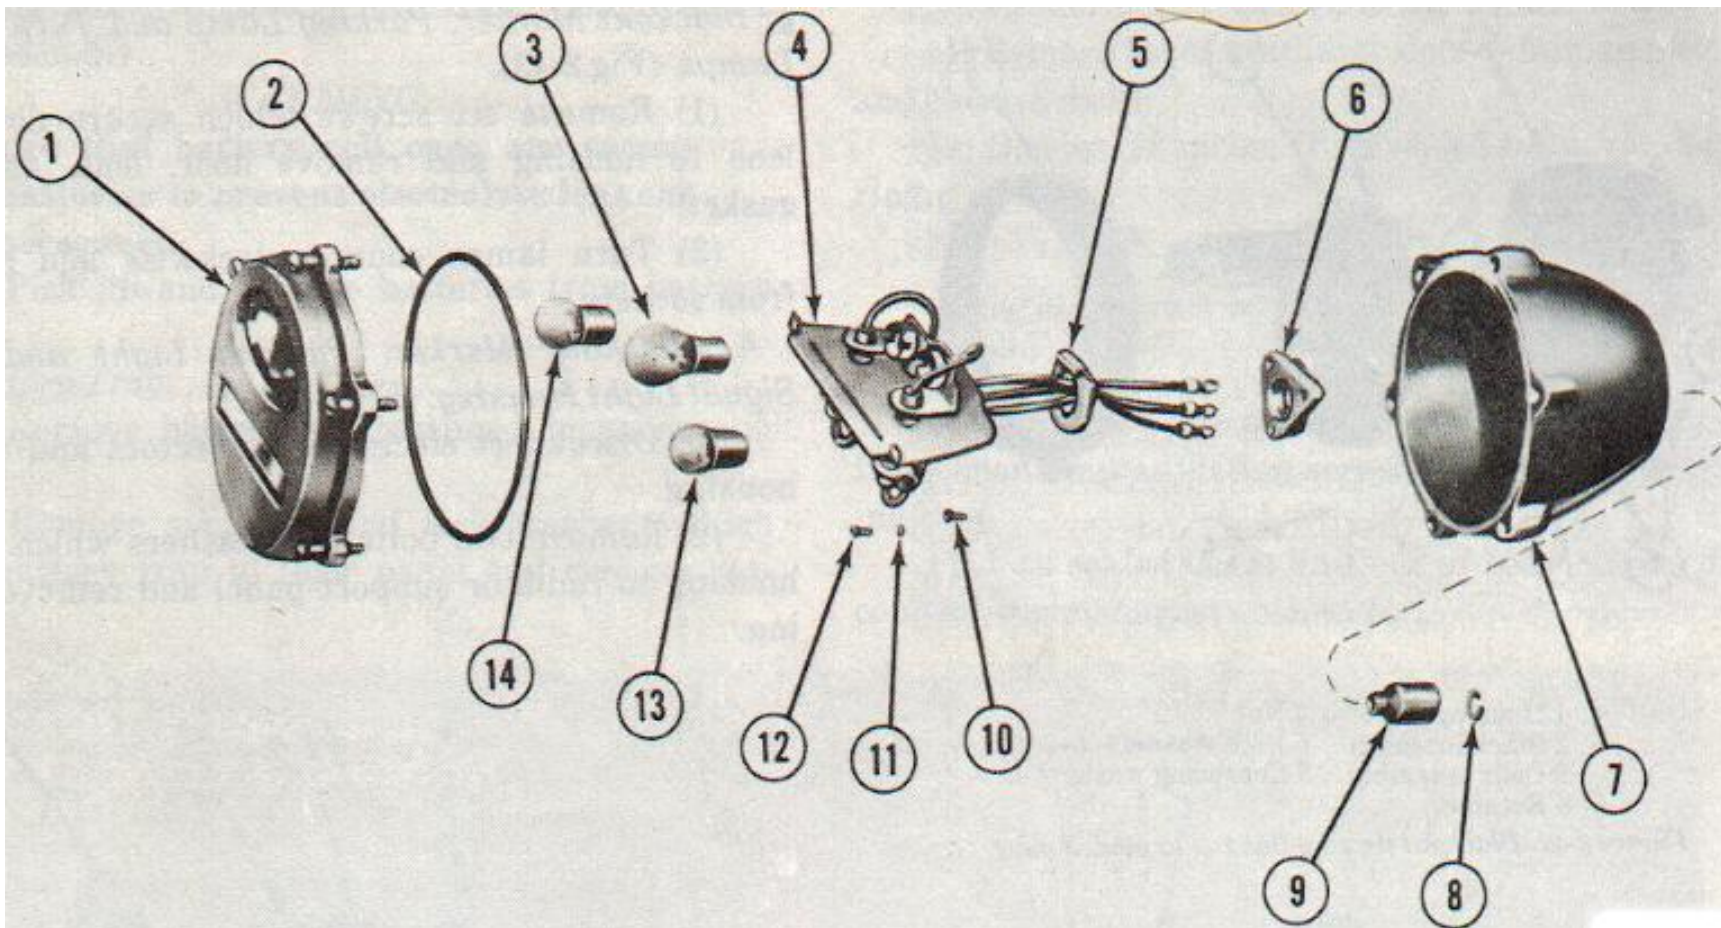
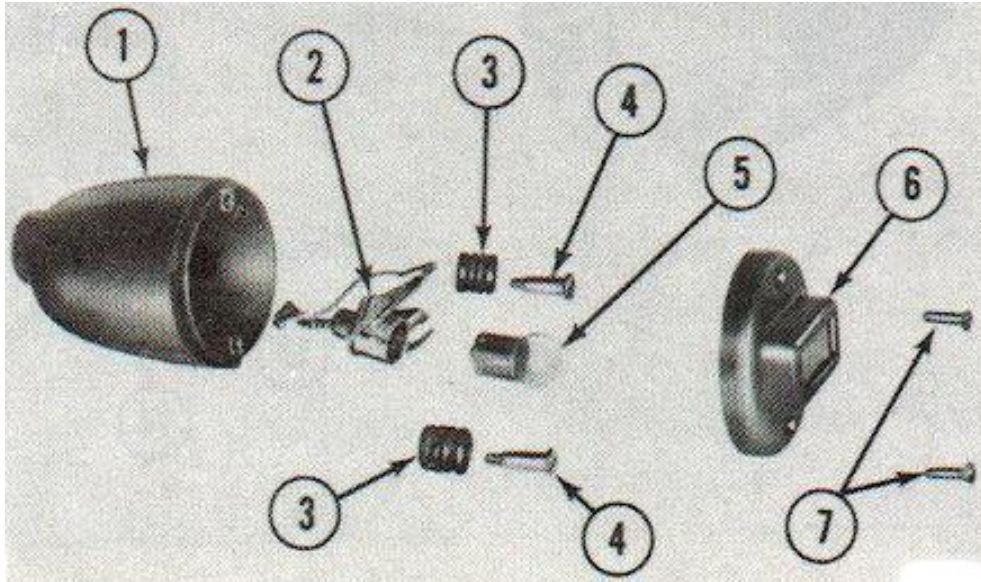

Figure 2-44 Tail and stop lamp, directional signal lamp, parking lamp, blackout marker.
Figure 2-45. Blackout stop light - exploded view.
i. Tail and Stop Lamp, Directional Signal Lamp, Parking Lamp, Blackout Marker. (Fig 2-44)
(1) Remove six screws which secure door and lens to housing assembly and remove door and lens.
(2) Turn lamps counter-clockwise and remove
j. Tail and Stoplight, Directional Signal Light, Parking Light, Blackout Marker Housing. (fig 2-44)
(1) Disconnect electrical connectors located between bumperette and push connectors through grommet.
(2) Remove two nuts and lock washers which secure housing to bracket and remove housing.
k. Blackout Stop Lamp. (Fig 2-45)
(1) Remove two screws securing light door.
- (2) Remove door, lens and sealing gasket.
- (3) Press lamp in and turn lamp from socket.
1. Blackout Stop Lamp Housing. (Fig 2-45)